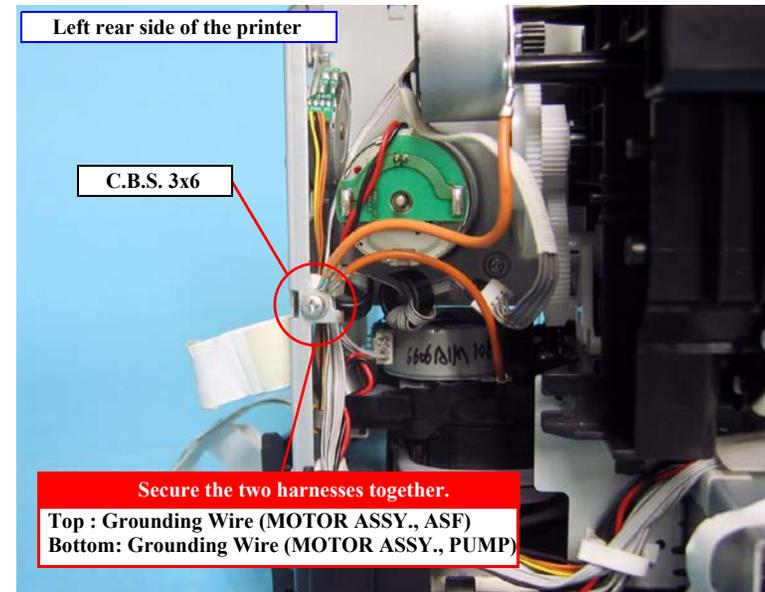

Figure 4-135. Releasing the HARNESS
9. Remove the screw on the rear of the main unit that secures the grounding wire of the MOTOR ASSY., ASF and the MOTOR ASSY., PUMP, and release them from the main frame. *See Figure 4-135.*